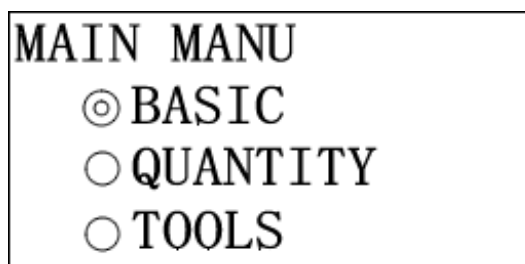

Fig. 4-1
(1) BASIC MODE
Step 1, Choose “**BASIC**” by up and down key, ENTER to confirm. (Fig. 4-1)